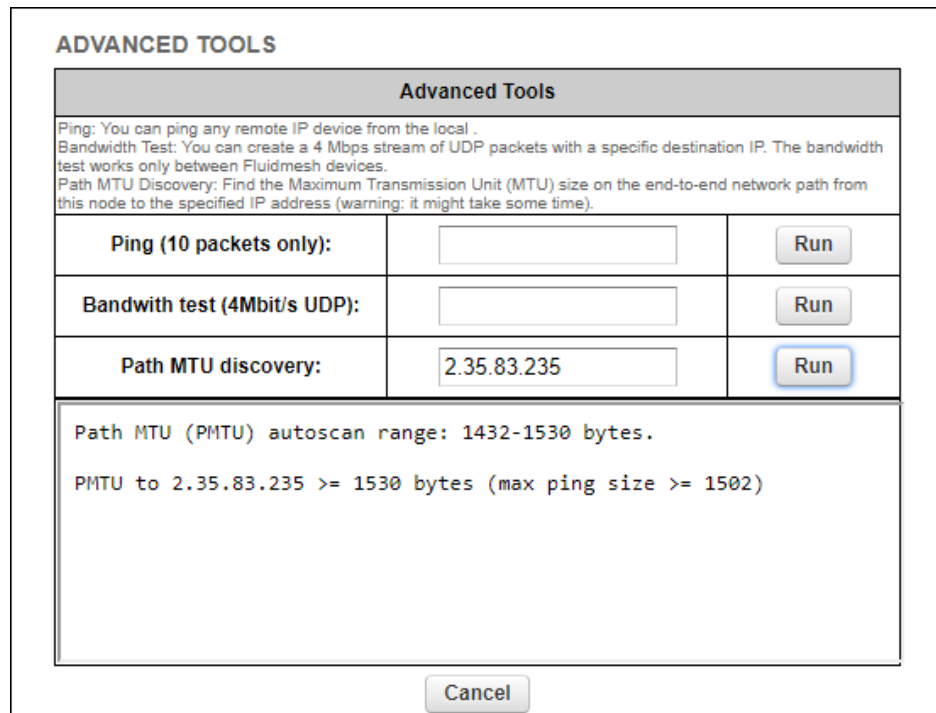

Figure 31. Advanced Tools window (Path MTU test tool)
2. Enter the IP address of the second unit in the **Path MTU discovery** field (Figure 31 \(page 92\)).